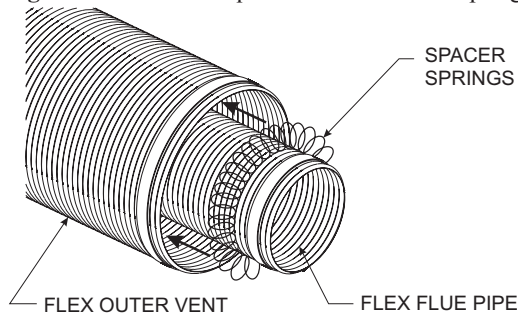
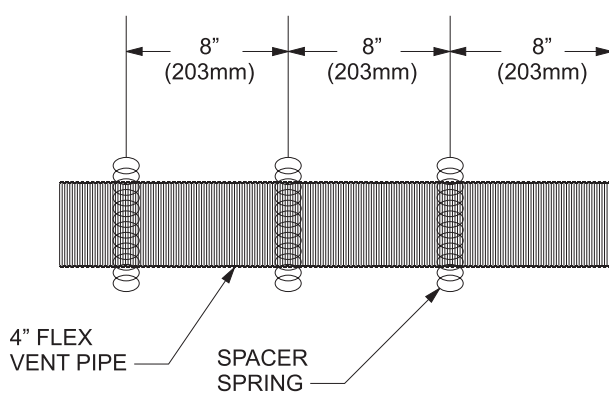

Figure 55
Figure 56
2. Check to see that the vent spacer springs are located around the flue vent at 8" and 12" intervals along its length. See Figure 55. If not, stretch the spacer springs to about 15" long and wrap them around the flue, then interlock the ends of each spring about 2". See Figure 56. Maintain equal distance between spring spacers.
4. Install the Wall Firestop/Thimble assembly as required through the wall. Refer to the venting charts in the fireplace manual to determine the proper height and size of the vent opening. The minimum opening should be 10" wide by 12" high. The minimum combustible clearance from the horizontal vent is 1" from sides and bottom, and 3" above the vent pipe. See Figure 56.